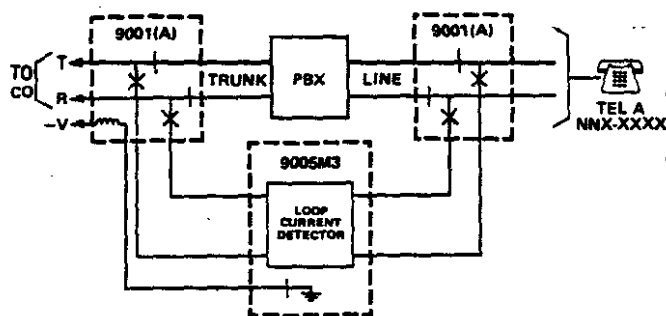

figure 2. Typical power-failure-transfer application
1.04 If a power failure occurs, the 9001 modules' relays de-energize, and a cut-through path is established from the central office trunks through the 9001 and 9005M3 modules to designated PBX stations. This allows the stations to bypass the PBX and be connected directly to the serving CO, and thereby provide normal telephone service during a power failure. Figure 2 shows a typical application of this type. (If the PBX-to-CO trunk is a ground-start trunk, the PBX stations must be equipped with a pushbutton to simulate a ring ground access of the trunk.) When power is restored, the 9001 modules' relays re-energize and restore normal telephone service.
2.03 Paragraph 2.16 of this section contains a sample table that gives examples of the type of data that the customer must supply to the serving telephone company regarding installation of the 273AR Assembly. Figure 2 shows the typical 273AR application from which this table was compiled.
typical configuration and sample information table 2.16 Figure 2 in section 2 shows a typical 273AR Assembly application; table 1 is a sample information table corresponding to that figure. This sample table is representative of the information that the customer must supply to the serving telephone company in regard to installation of a registered 273AR Assembly. Be aware that it is the responsibility of the customer at the time USOC's are ordered to specify the sequence in which CO lines are to be connected. The serving telephone company will consecutively wire these lines without skipping any jack positions.
table 1. Sample information table for 273AR Assembly configured as shown in figure 2